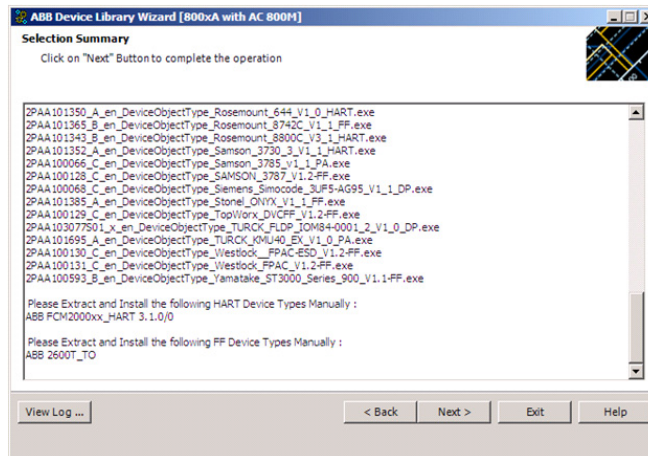

Figure 18. List of Files to be Manually Installed
- There may be some Object Types that are either customer created, or are the latest Device Types downloaded from ABB SolutionsBank. These will not be available on the DVDs. The Device Library Wizard will prepare a list for these Device Types (Figure 18). Install these Device Types manually.